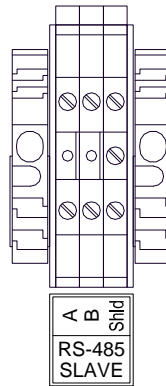

Figure 16 N4X RS-485 Slave Port Connections
8. If linking the X40 enclosure to an RD-64X remote display unit, connect the unit to the slave port terminals labeled **RS-485 Slave: 'A', 'B', and 'Shld'** (Figure 16).